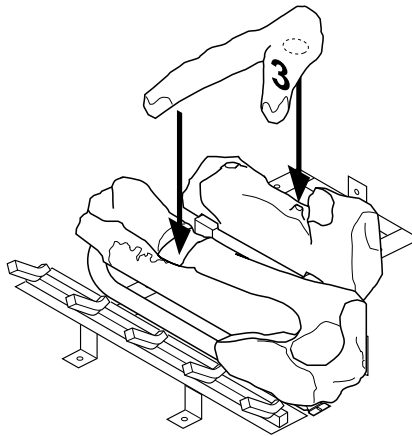

Figure 45 - Installing Log No. 3
3. Place log #3 (crossover log) onto the rear and front logs. Make sure it is seated properly into the notch on the front log and over the raised triangular portion of the rear log as shown in Figure 45.